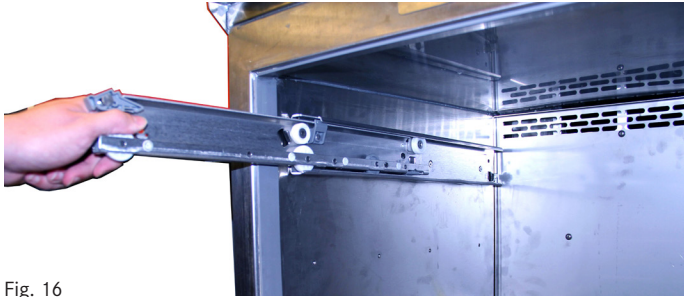

Fig. 16
5. Pull the drawer sliders out as far as they will go (Fig. 16).